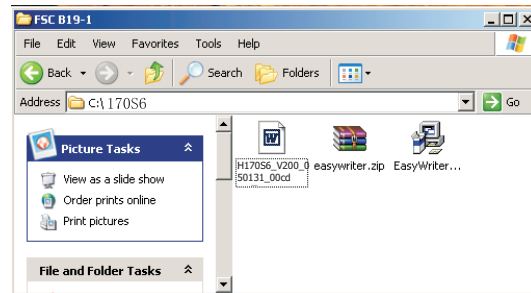

Fig. 5
Step 5 :Copy the hex file to C:\170S6 as shown in Fig. 5 .